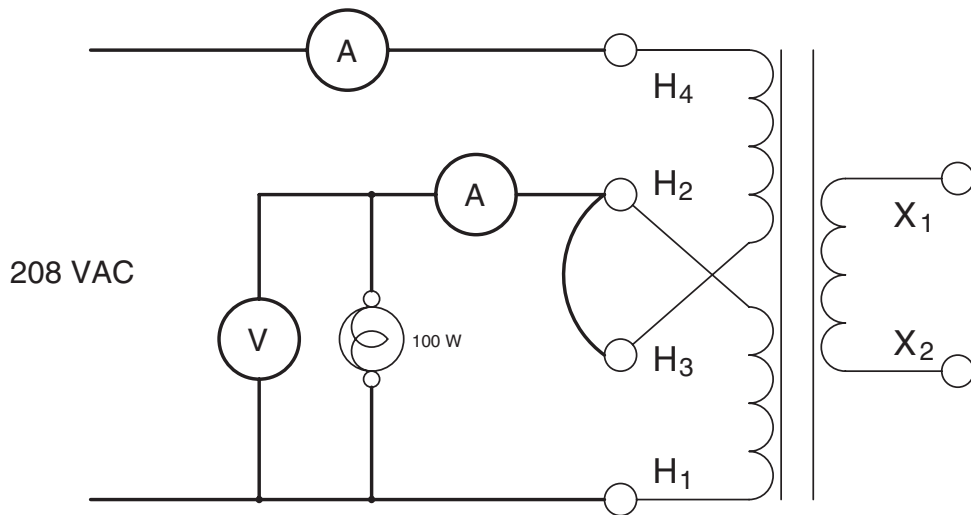

Figure 22-7 Connecting a load to the autotransformer.
7. Connect an AC ammeter in series with the H_2 terminal and a 100 watt lamp as shown in Figure 22-7. The secondary winding of the transformer will be between terminals H_2 and H_1 .